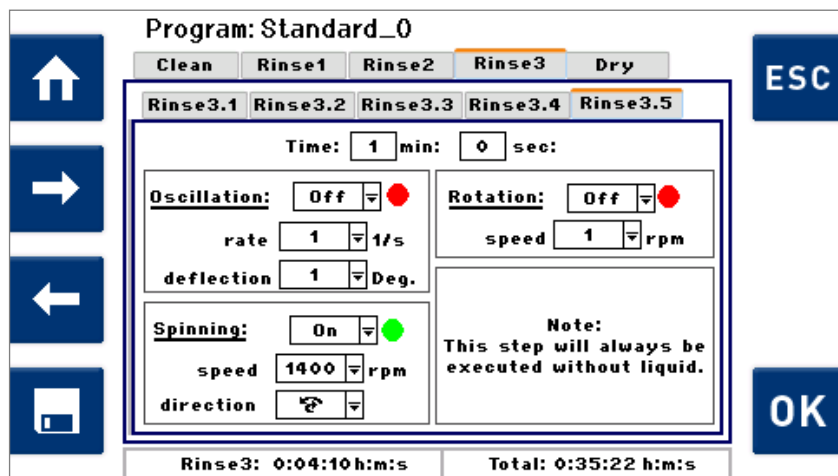
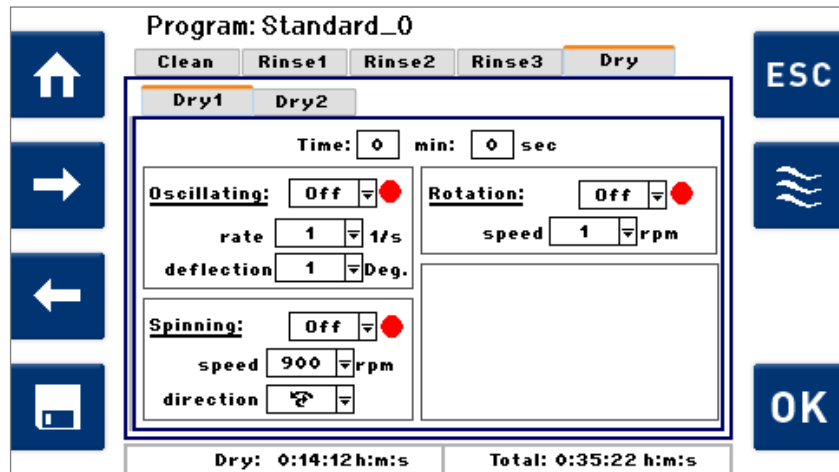

Fig.16.4 Screenshot of the options for *Rinse3.5* (analogous display for *Rinsex.5, x=1, 2, 3*).
Fig.16.5 Screenshot of the options for Dry1.
The then still to be evaporated (using vacuum and cleaning chamber wall heater) amount of the last rinsing medium on the parts and rotating basket surfaces is then determined by the duration and effectiveness of the preceding spinning sequences in *Rinsex.5* (*Fig. 16.4*) and *Dry1* (*Fig. 16.5*).
2. an as high as possible rotation speed (up to 1400 rpm) and a spinning duration with direction change where liquid is still spun off (usually a total of 40 = 2x 20 seconds) must be programmed in Dry1 (*Fig. 16.4*).